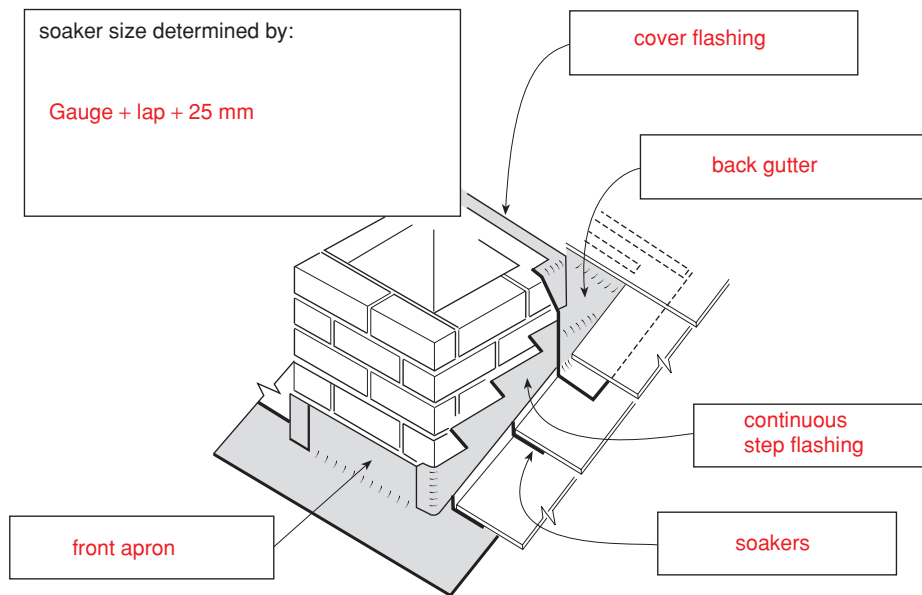

Figure 36
(92) In the space provided name the chimney flashing details shown in Figure 36 and give the calculation used to determine the length of a soaker. (Pages 362–365.)
(93) State the maximum length to be observed for any flashing detail. (Page 362.)